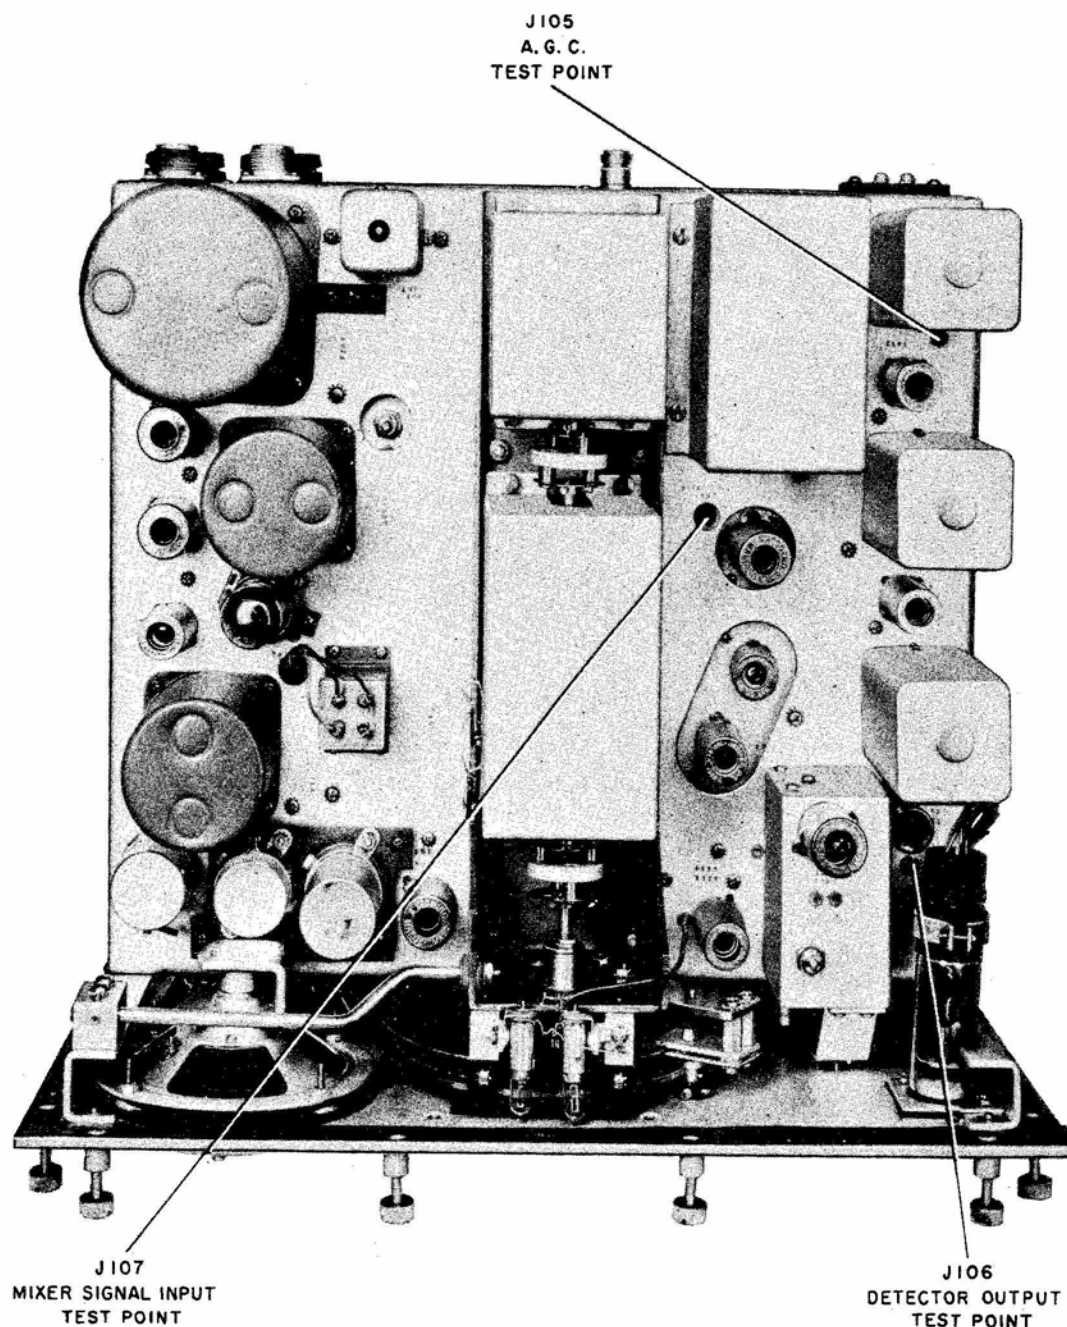
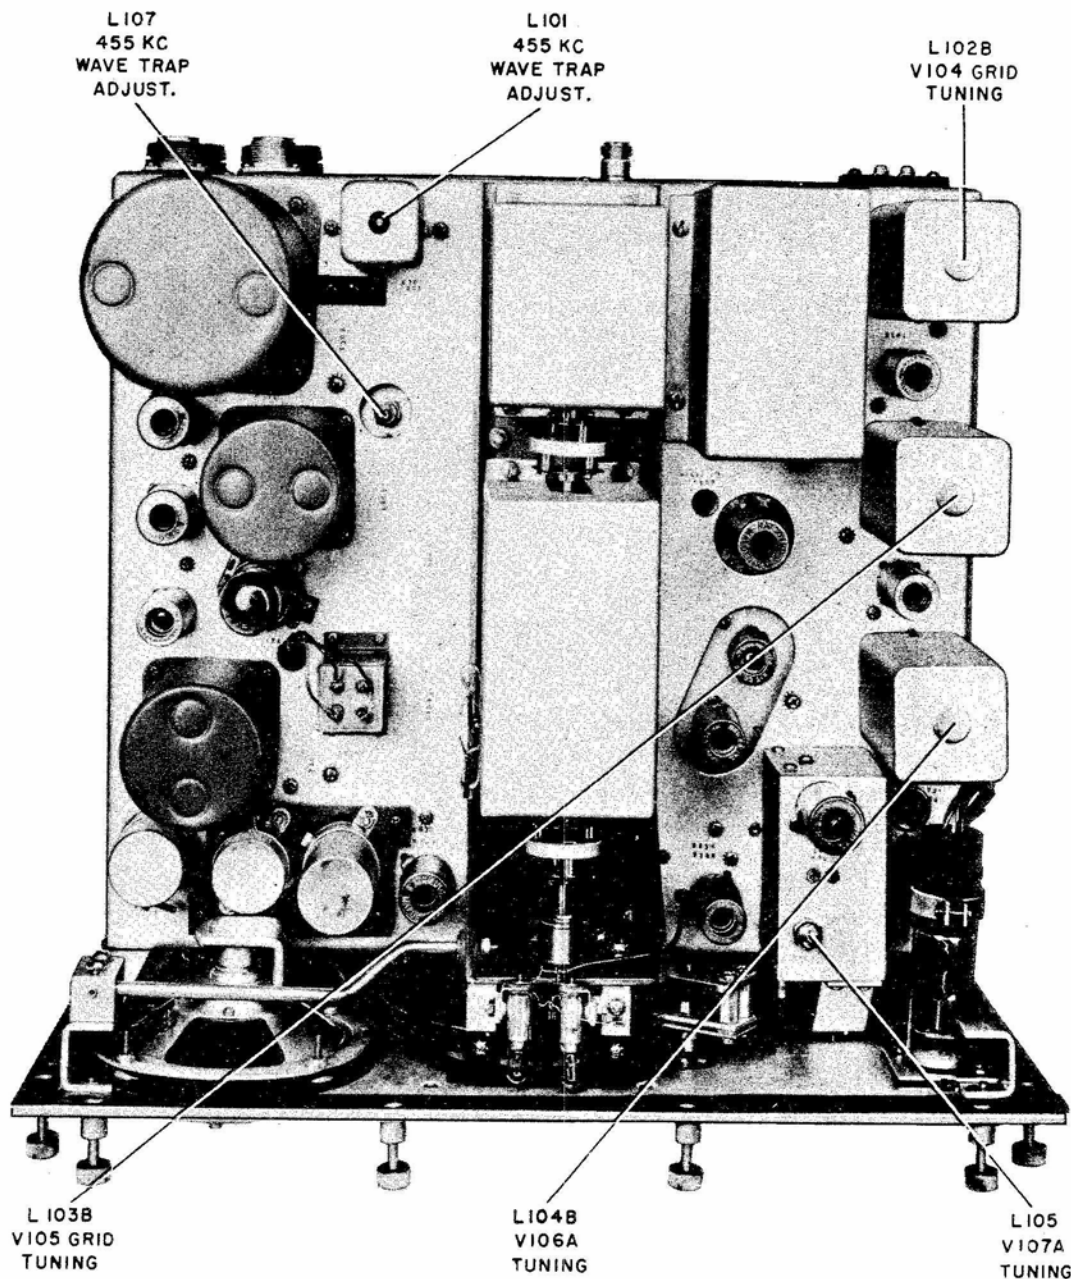

Figure 7-7. Test Point Locations, Top of Chassis
Figure 7-8. Alignment Adjustment Locations, Top of Chassis
Step 3. Connect the output of Signal Generator AN/URM-25 through a 0.01 mfd.-400-volt capacitor to test point J-107 and connect the ground lead of the signal generator to chassis. (See Figure 7-7.)
(1) I.F. ALIGNMENT.—See Figures 7-8 and 7-9 for location of I.F. adjustments, and Figure 7-7 for
generator to the receiver chassis. Connect the R.F. output lead from the signal generator through a 0.01 mfd 400-volt capacitor to test point J-107. (See Figure 7-7.)
(2) C.W. OSCILLATOR ALIGNMENT.—The resonant frequency of the C.W. oscillator is adjusted by means of varying the inductance of coil L-105. The adjustment is located on the top of the C.W. oscillator compartment (See Figure 7-8.) For C.W. oscillator alignment set the front panel controls in the same positions as in the previous paragraph 5 a (1). The signal generator and multimeter connections are also the same.
Step 1. Place the front panel controls in the same positions as in previous paragraph, 5 a (2).
(4) R.F. ALIGNMENT.—See Figures 7-8 and 7-9